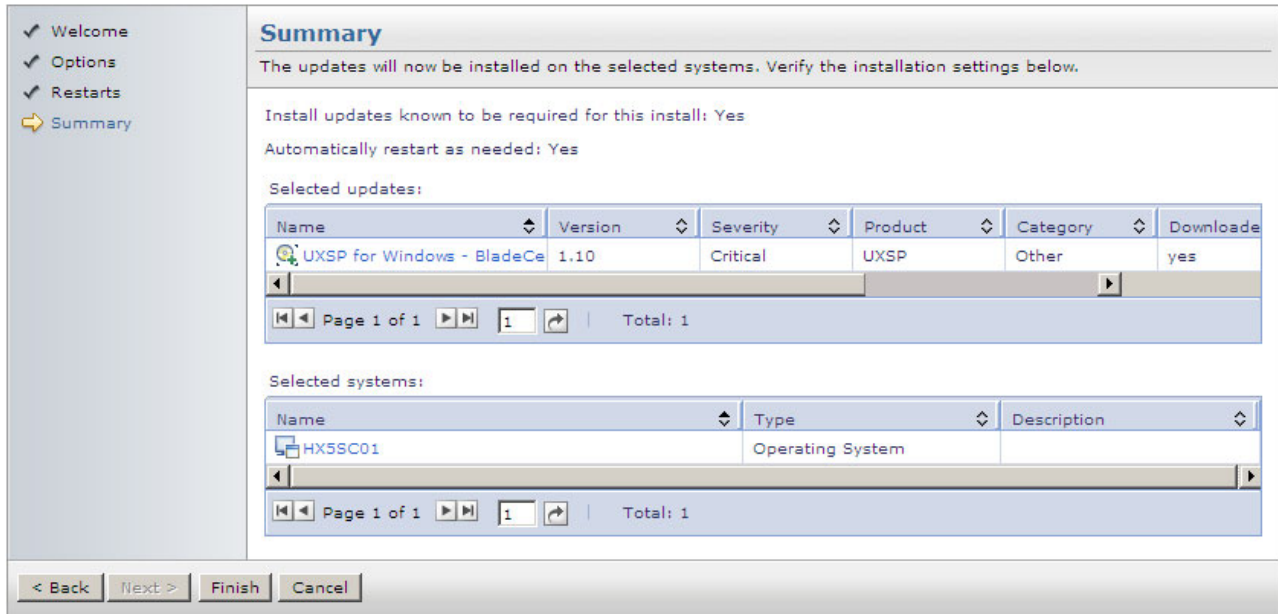

Figure 9-45 Summary of firmware to be installed
8. A summary of the updates to be installed will be displayed, as shown in Figure 9-45. Click **Finish** when ready to proceed.